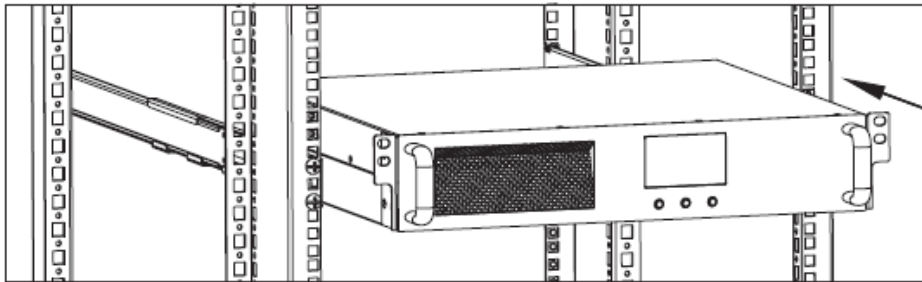

Figure 8
Step 4: Slide the UPS with its right and left ears attached onto the rail guide until the ears are in contact with the front of the rail guide. Refer to Figure 8 below.